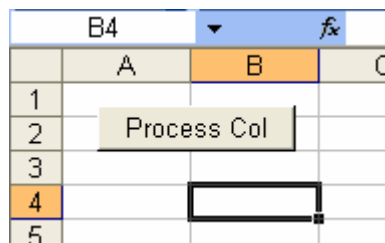

Figure 9: Button in Excel.
6. Size the pushbutton as needed, and type the caption **Process Col**, as shown in Figure 9.